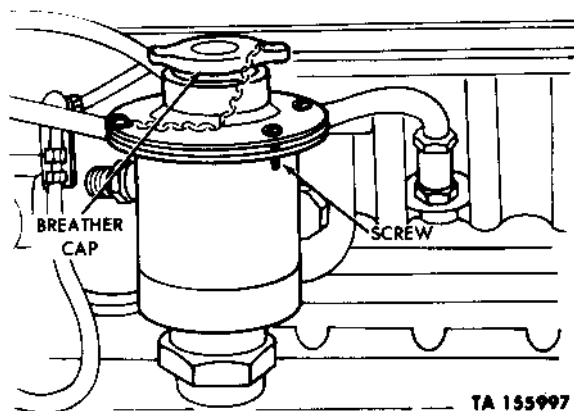

Figure 2-49. Removing crankcase breather cap and filter.
(1) Remove cap (fig. 2-49) from filter. Unscrew four screws securing filter to breather cup and remove filter. Slip rubber gasket off filter.
(4) Position the rubber gasket to the filter, and place the filter in the cup. Secure the filter to the cup with four screws (fig. 2-49). Tighten the screws and install the cap.